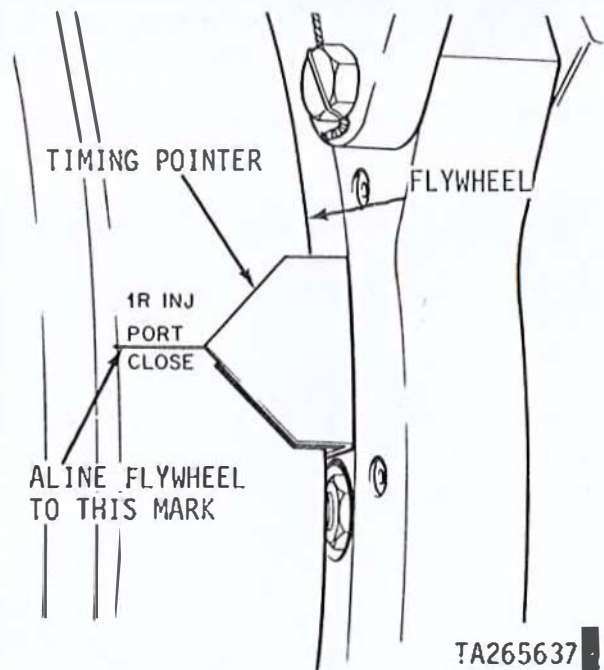

Figure 2-51. Flywheel in position for fuel injection pump timing, model AVDS-1790-2C and AVDS-1790-2D engines.
(4) Turn flywheel (fig. 2-51), using splined wrench, Part No. 10882747. Aline 1R INJ PORT CLOSE timing mark on flywheel with timing pointer.
Be sure pointer aligns with correct timing mark on flywheel (fig. 2-51).